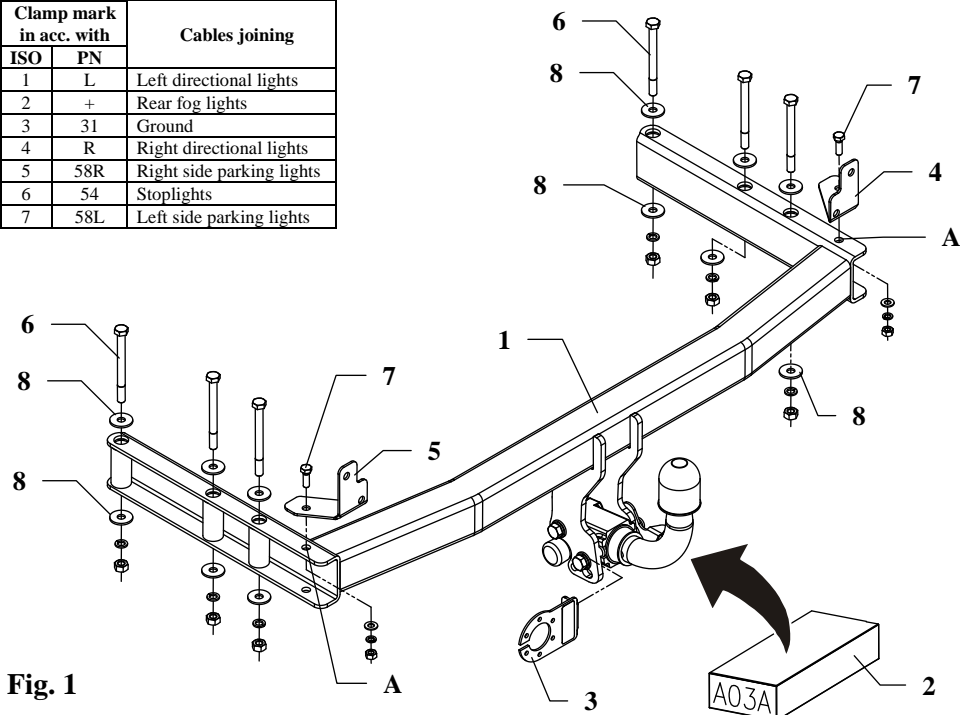

Fig. 1
3. Through holes of towbar pos. A fix handles (pos. 4 and 5) using bolts M8x25mm (pos. 7).
5. Main bar of the towbar together with bumper slip into chassis members in this way, so holes of towbar agree with original prepared holes and fix from inside bumper using bolts M10x110mm (pos. 6) as shown in figure 1.
7. Fix body of the automat and place tow-ball according to supplied instruction. Note! Remember to place socket plate (pos. 3) as shown on the drawing 1.